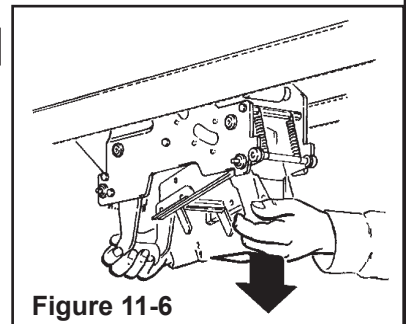

Figure 11-6
3. Hold upper taping head applying and buffing arms from under upper assembly, slide head forward and down to remove. See Figure 11-6